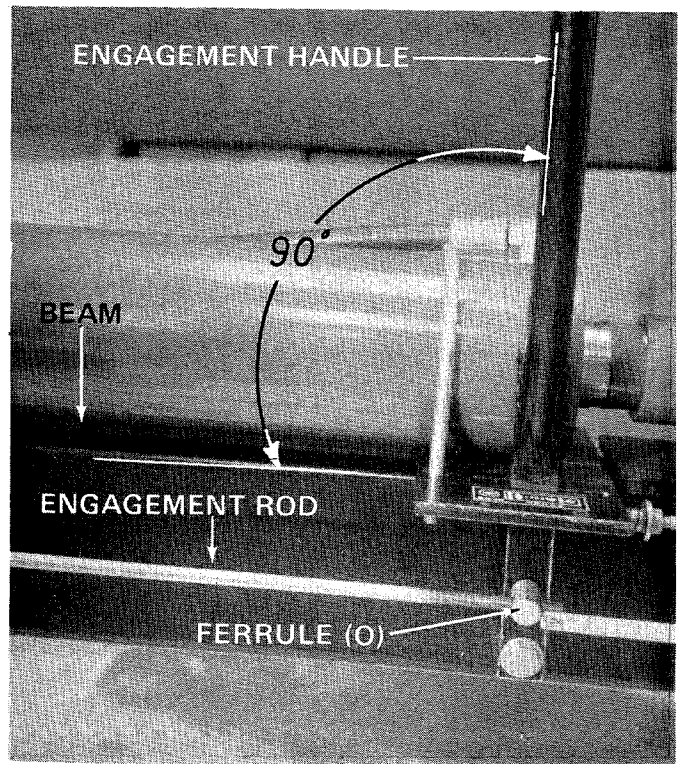

FIGURE 12
12. Thread ferrule (O) on engagement rod so there is approximately 1/2" of thread showing. Engagement handle must be at 90° to beam. Insert ferrule into engagement handle. See figure 12.